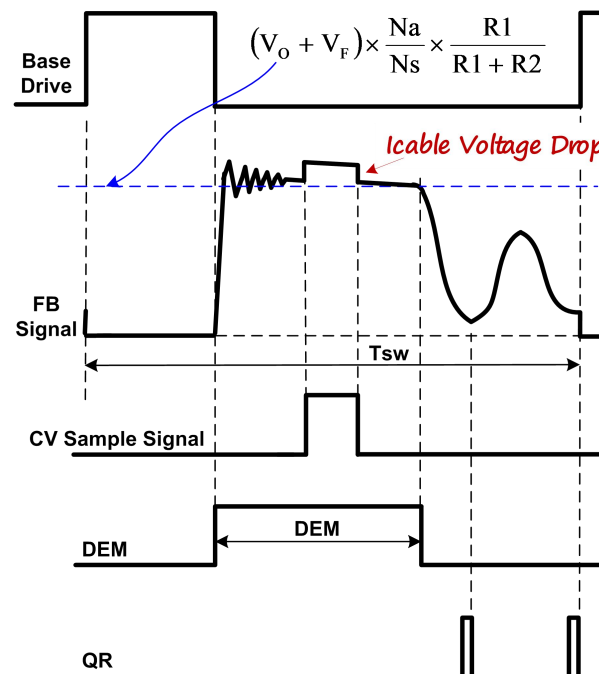

Fig.2
In Primary Side Regulation (PSR) control, the output voltage is sensed on the auxiliary winding during the transfer of transformer energy to the secondary. Fig.2 illustrates the timing waveform of CV sampling signal, demagnetization signal (DEM) and quasi-resonant (QR) trigger signal in DP3773D. When the CV sampling process is over, the internal sample/hold (S&H) circuit captures the error signal and amplifies it through the internal Error Amplifier (EA). The output of EA is sent to the Quasi Resonant PSR CV Modulator (QR-CVM) for CV regulation. A valley is selected to trigger new PWM cycle by the output of the QR-CVM block, which is determined by the load. The internal reference voltage for EA is trimmed to 2V with high accuracy.
During the CV sampling process, an internal variable current source is flowing to FB pin for Cable Drop Compensation (CDC). Thus, there is a step at FB pin in the transformer demagnetization process, as shown in Fig.2. Fig.2 also illustrates the equation for “demagnetization plateau”, where Vo and VF is the output voltage and diode forward voltage; R1 and R2 is the resistor divider connected from the